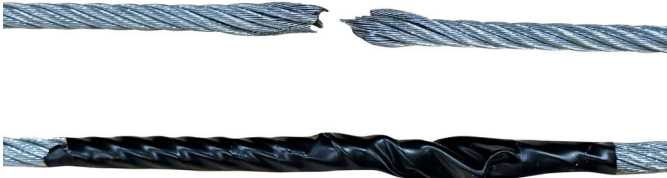

Figure 4-5: Spiral-Wrap Cable Ends
9. Lay the cut end of the new cable to the cutoff end of the damaged cable. Make sure there is a 1/4" gap between the two cable ends. Spiral-wrap the two cables together using electrical tape (see Figure 4-5).